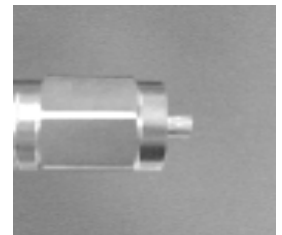

Figure 4
- 5) **Slide** back-nut of connector into place onto prepared cable end. Center conductor should protrude at least 0.375" (1/2" cable) or 0.25" (5/8" & 7/8" cables) (Figure 4). **Slide** front-nut onto center conductor and **hand-tighten** pieces together.